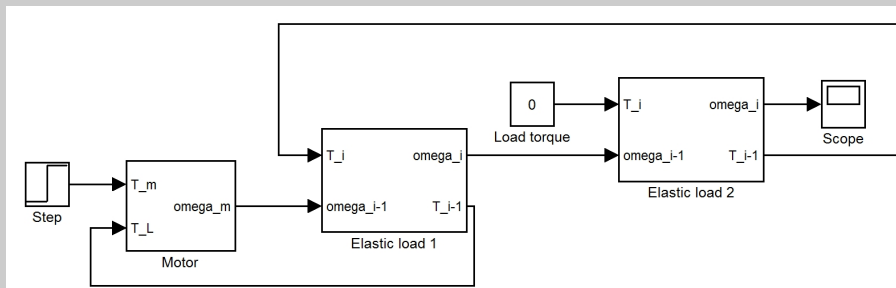

Figure 5: Motor with two elastic loads
**Solution:** See Figure 5. After a step in motor torque, the rotational speeds in the system will keep on increasing since there is no load torque that is increasing with rotational speeds.